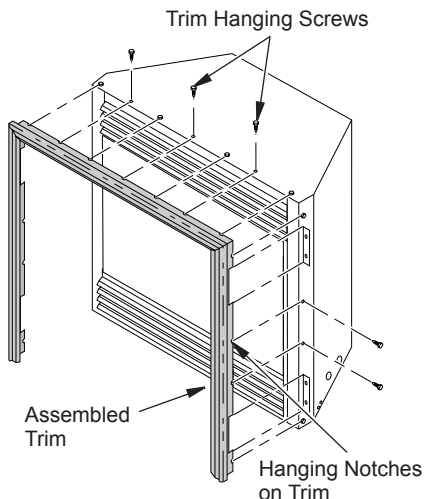

Figure 29 - Attaching Perimeter Trim to Fireplace
8. Tighten trim hanging screws (#10 x 6.25 shoulder) into holes in cabinets. Place the assembled trim onto fireplace cabinet. Align hanging notches on trim with hanging screws on side of fireplace (see Figure 29). Push trim firmly into place, sliding hanging notches over hanging screws.